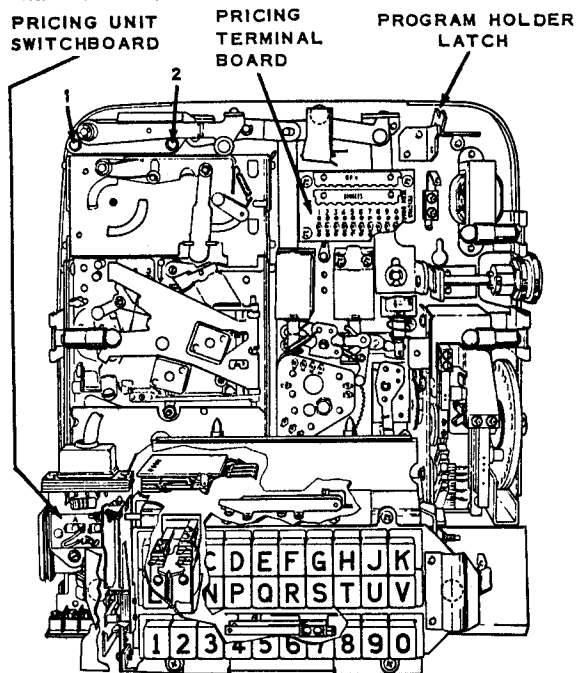

Figure 2.
- B. Unscrew 1 and 2 (*Figure 2*), and remove coin chute.
- C. Release catch 3 (*Figure 2*) to right and remove 50¢ section of slug rejector by lifting up and out.